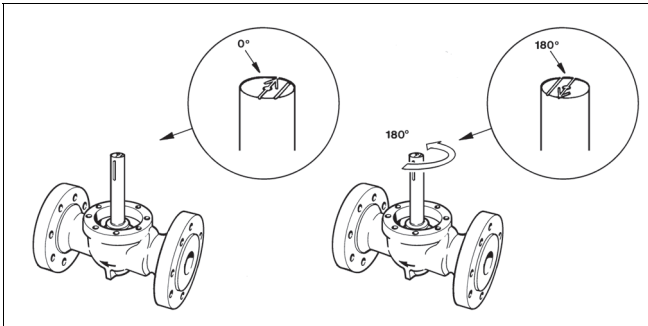

Fig. 11 Turning the ball
- Turn the valve ball 180 degrees from the CLOSED position, see Fig. 11.